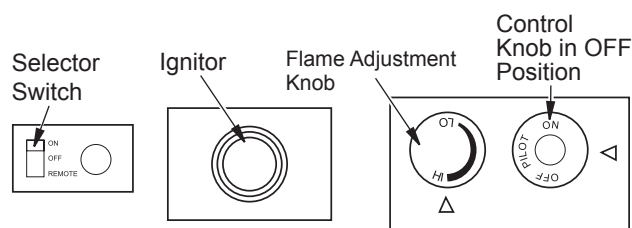

Figure 27 - Control Knob, Ignitor Button and Remote Selector Switch
4. Press in and turn control knob clockwise to the OFF position (see Figure 27).
5. Wait five (5) minutes to clear out any gas. If you then smell gas, STOP! Follow "B" in the safety information in column 1. If you don't smell gas, go on the next step.
6. Press in and turn control knob counterclockwise to the PILOT position. Press in control knob for five (5) seconds (see Figure 27).
After lighting, let pilot flame burn for about one minute. Turn control knob to ON position. Adjust flame adjustment knob anywhere between HI and LO. Slide the selector switch to the REMOTE position (see Figure 27).